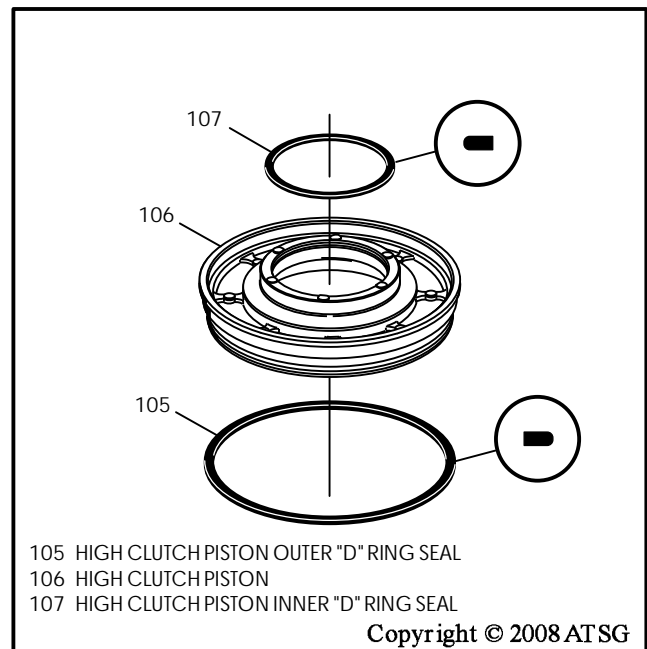

Figure 136
6. Install new inner and outer "D" ring seals onto the high clutch piston, as shown in Figure 136, and lube with small amount of Trans-Jel®.